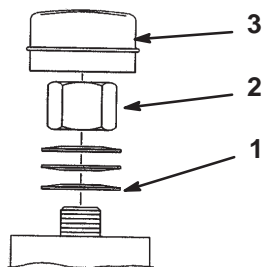

Figure 48
2. Remove the dust cap from the castor and tighten the locknut (Fig. 48).
3. Tighten until the spring washers are flat and then back off 1/4 turn to properly set the preload on the bearings (Fig. 48).
Important Make sure that the spring washers are installed correctly as shown in Figure 48.